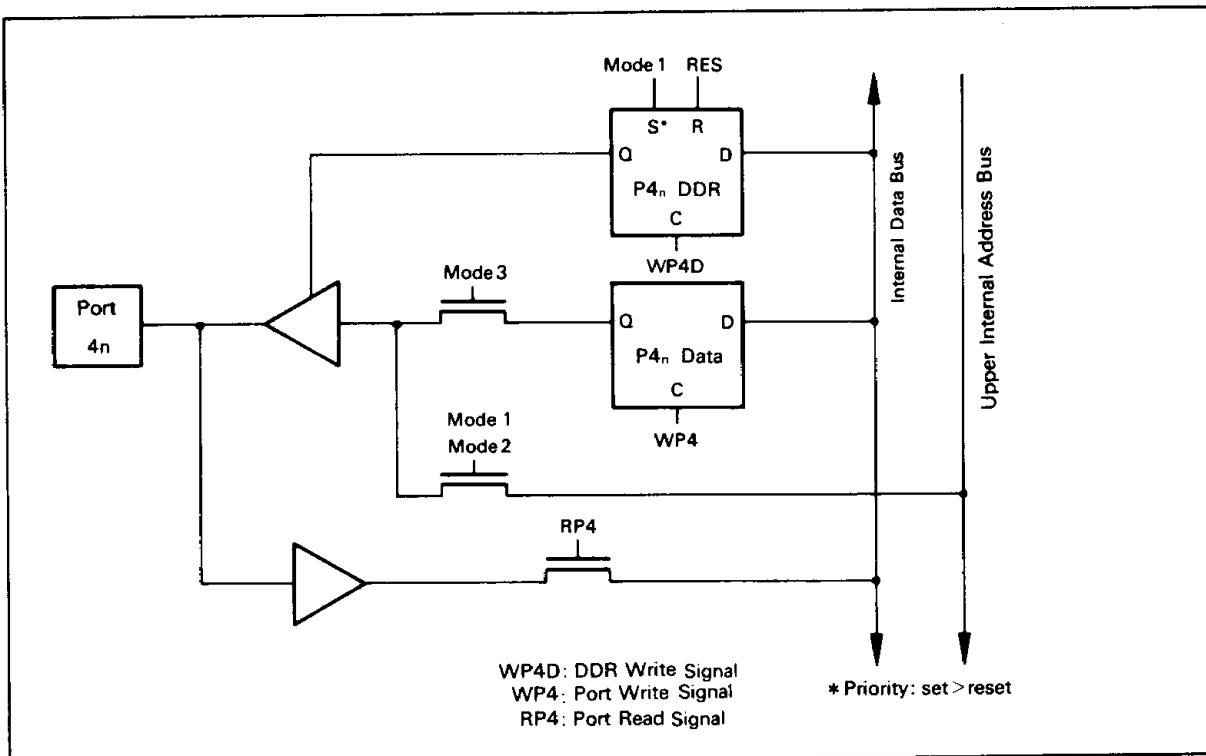
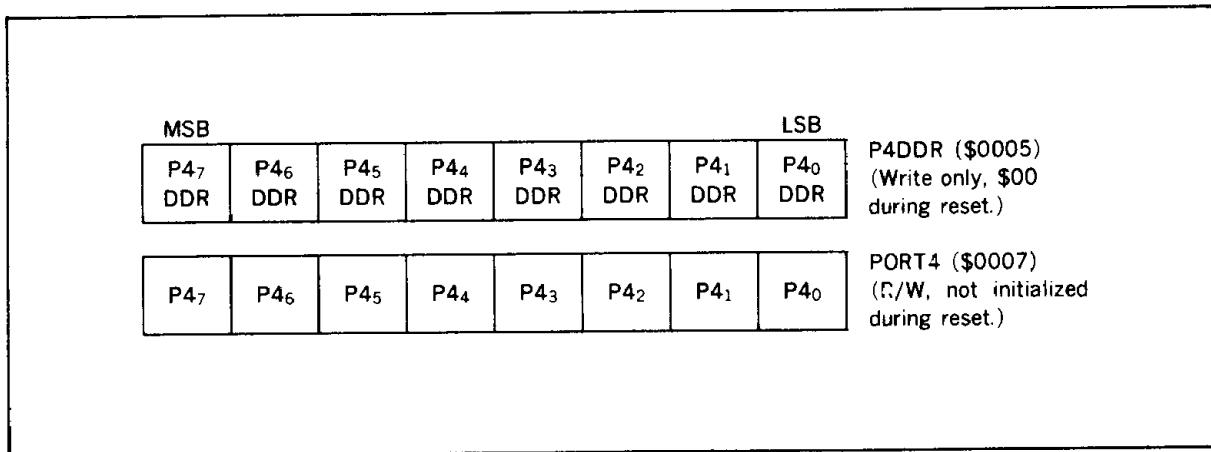

Figure 15. Port 4 Block Diagram
Figure 16. Port 4 Register and Data Direction Register
**Port 4** : Port 4 is an 8-bit I/O port (figure 15). Each bit of the DDR (\$0005) defines the data direction of the corresponding bit of port 4 (figure 16). In the expanded modes (1 and 2), port 4 is the upper address bus ( $A_{15}-A_8$ ). In mode 1 (expanded mode with no external ROM), the DDR is set